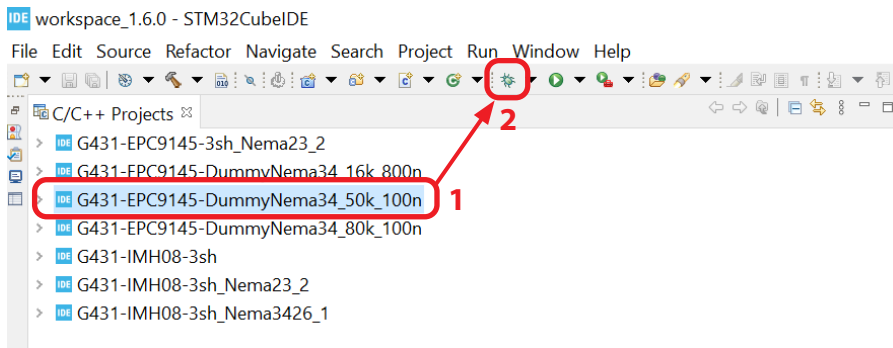
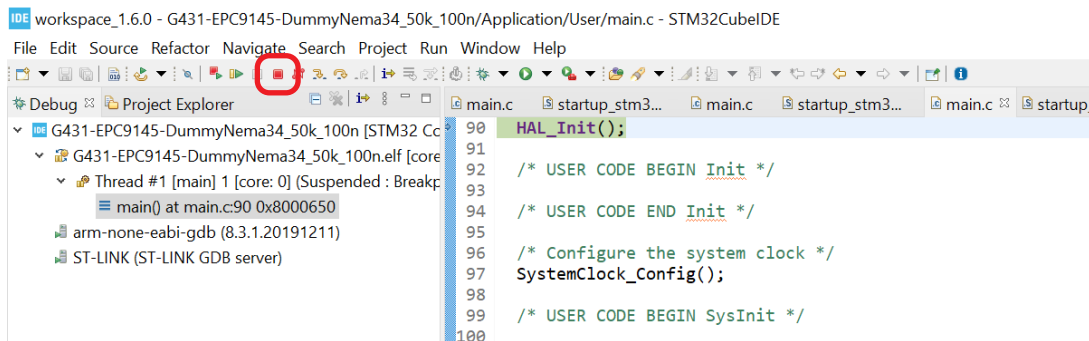

Figure 17: Compile, Build and Flash
Figure 18: Debugger terminate button
Highlight the project (1) in the STM32CubeIDE program and click the **Debug (2)** button as in Figure 17. The entire Compilation, link and flash of the project in the STM32 flash will start (a dialog box may appear, in that case click OK). When the process is finished, the Compiler will enter in Debug mode. Click the **Terminate** button as in Figure 18 and disconnect the USB cable. The STM32CubeIDE program can be closed.